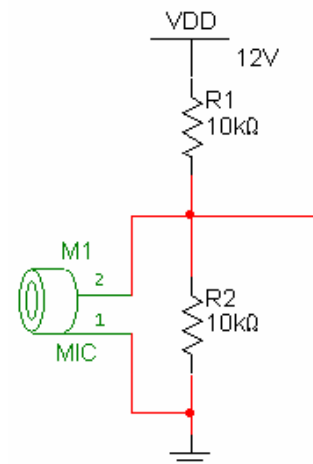

Figure 1-6 – Mic bias network.
- Now let's add the microphone into the circuit. In our circuit we're biasing the mic through a resistor divider as shown in Figure 1-6. This is not common, but we need to bias the mic below its maximum rated bias (10V), and since the mic buffer current draw is somewhat unpredictable, it is safer to use a divider as shown. The actual bias voltage will be somewhere in the range of 4-6V depending on how much current the mic will draw.